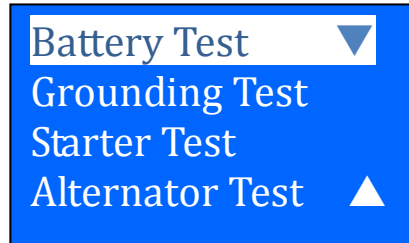

Figure 31
3. After you have made your choice, selecting "New: Clear Memory" or "Continue...Test" will proceed to the display below: (Fig. 31)